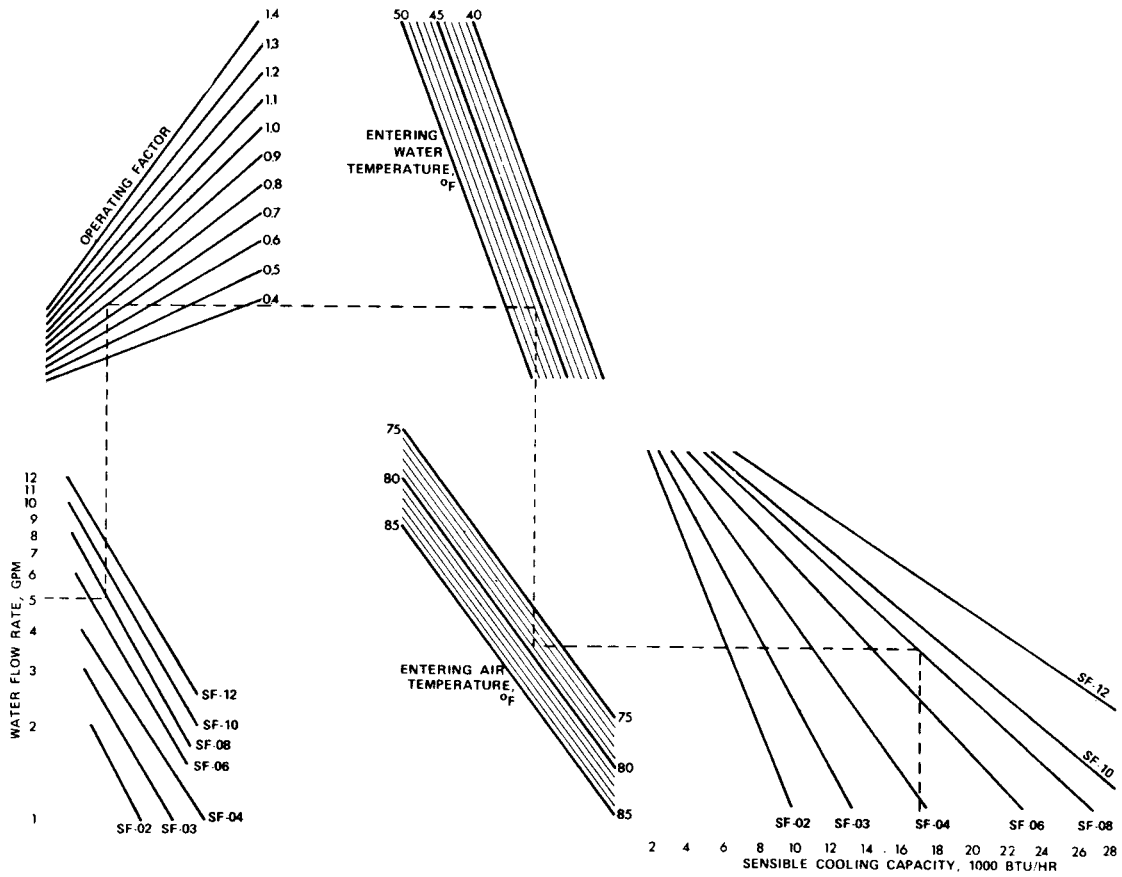

FIGURE 1. WET TARING SENSIBLE COOLING CAPACITY
The water flow rate is determined from FIGURE 1, which gives the total cooling capacity as a function of water flow rate (gpm) with the operating factor (OF) and the unit size as parameters.
Note 1: If it is required to operate the fan-coil unit at medium or low fan speed, the capacity multiplying factor, (FIGURE 1) for the fan speed should be applied before the above procedure is followed. Namely, the given total cooling capacity should be divided by the capacity multiplying factor, resulting in a higher initial cooling capacity. Then, using the corrected total cooling capacity follow the procedure outlined above.
*Note 1:* If sensible cooling capacity, with medium or low fan speed is desired, apply the capacity multiplying factor for fan speed (FIGURE 1).
*Note:* If it is required to operate the fan-coil unit at medium or low fan speed, the capacity multiplying factor for the fan speed, as given in FIGURE 1, should be applied before the above procedure is followed. Namely, the given heating capacity should be divided by the capacity multiplying factor, resulting in a higher initial heating capacity. Using the corrected heating capacity, the procedure stated above should be followed.